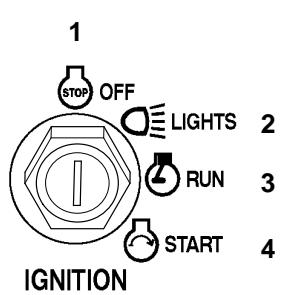

Figure 7
8. Turn the ignition key clockwise and hold it in the "START" position (Fig. 7). When the engine starts, release the key.
2. Turn the ignition key to “OFF” (Fig. 7).